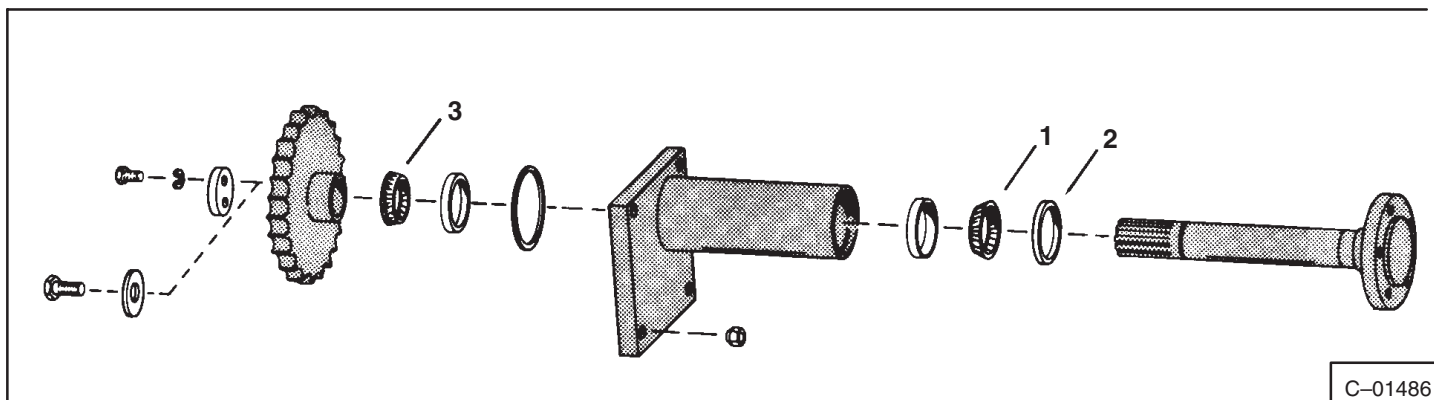

Fig. 103 Axle Breakdown
Fig. 103 shows an axle breakdown.
2. Place the outside bearing (Fig. 103, Item 1) into the outer race. Press the seal (Fig. 103, Item 2) into place.
4. Using the same driver, drive the inside bearing (Fig. 103, Item 3) into place.